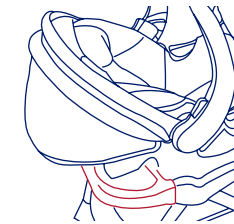

Fig. 13a
- Position the Infant Car Seat, facing toward the rear of the jogger, so that the seat shell goes into the Child Tray and latches into place. (Fig. 13a) Check that the Infant Car Seat is firmly locked onto the Child Tray before using.